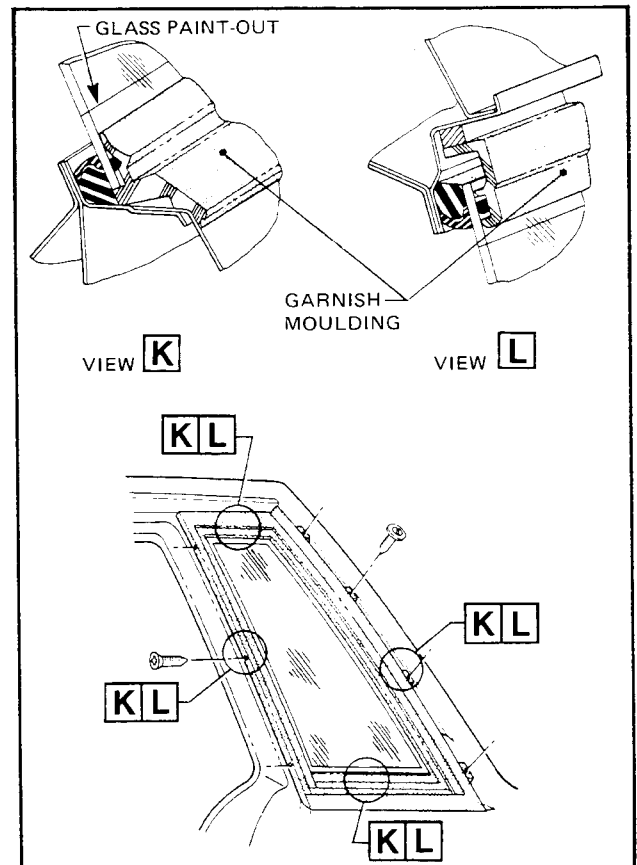

Figure 1A-30
13. Install screw attached quarter reveal moulding lower to bottom horizontal part of garnish moulding (refer Section AN-AN, Fig. 1A-31).